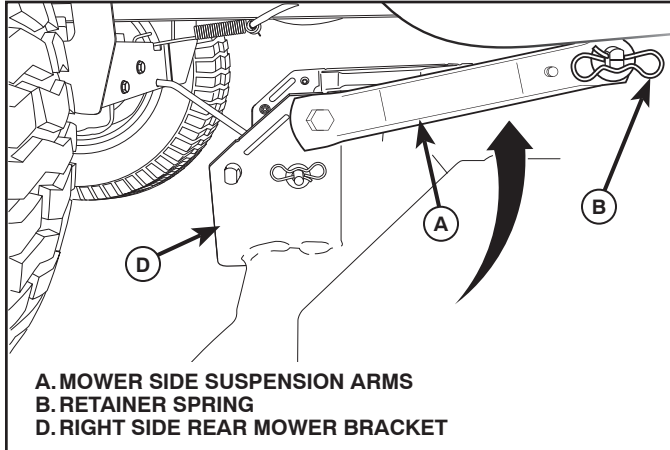

Fig. 34
6. ATTACH MOWER SIDE SUSPENSION ARMS (A) TO CHASSIS (See Fig. 34)
- Position front hole in side suspension arm (A) over pin on outside of tractor chassis and secure with large washer and large retainer spring (B).